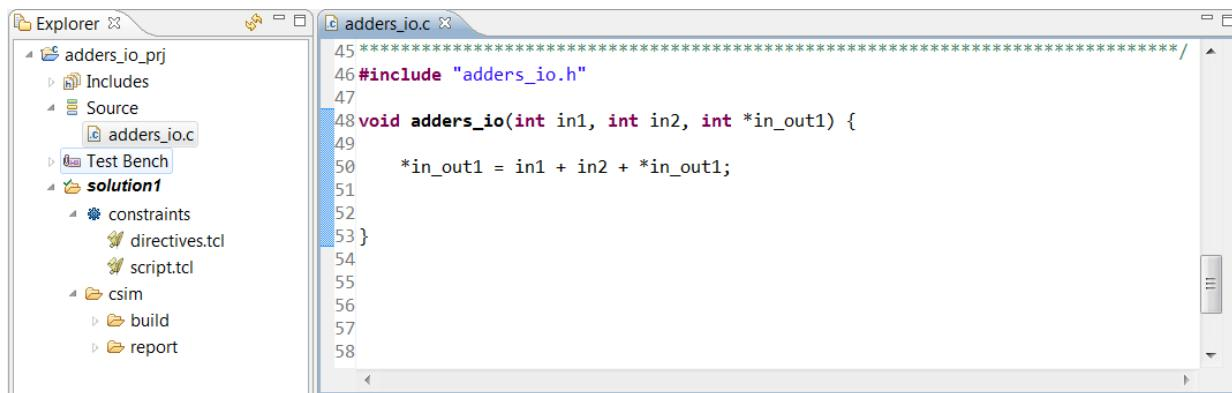

Figure 4-12: C Code for Interface Synthesis Lab 2
4. Open the source code as shown in Figure 4-12.
For the code shown in Figure 4-12, the possible options for each function argument are described in Table 4-2.